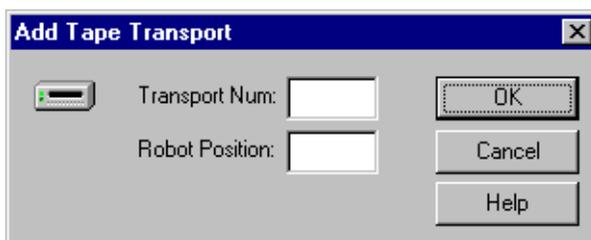

Figure 70. Add Tape Transport dialog box
3. Click the **Add** button. The Add Tape Transport dialog box appears, as shown in Figure 70.